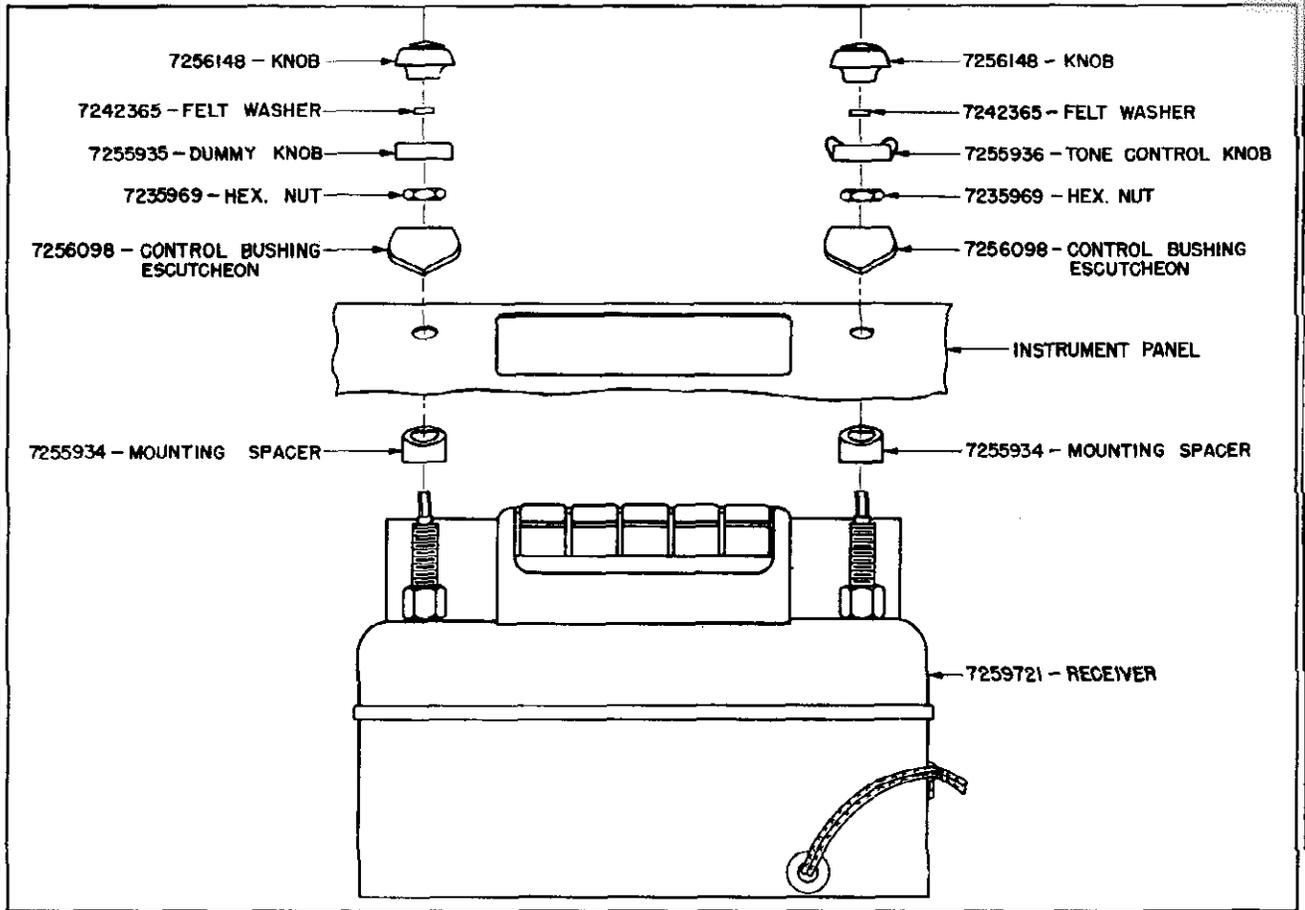

Figure 65
10. Open cowl ventilator. Place the receiver behind the instrument panel and insert the control bushings and dial escutcheon into the proper panel openings. (See Figure 65.)
11. Assemble one control bushing escutcheon and one hex nut on each control bushing. Tighten hex nuts. (See Figure 65.)
13. Install the tone control knob, felt washer and volume control knob on the left-hand shaft. Install the dummy knob, felt washer and manual tuning knob on the right-hand shaft. (See Figure 65.)